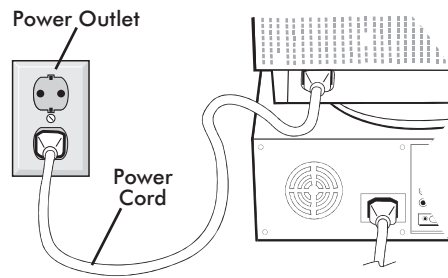

Figure C.1
4. Connect one end of the power cord to the monitor and the other end to the power outlet (Figure C.1).